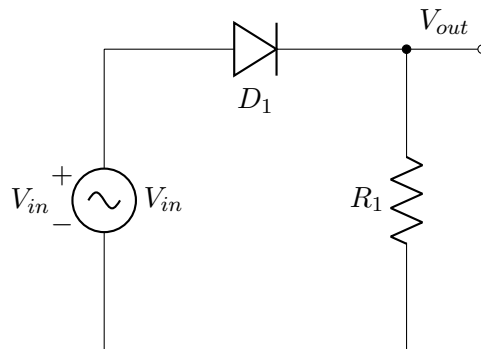

Figure 1: Half-wave rectifier using one diode
In half-wave rectification, either the positive or negative half of the AC wave is passed, while the other half is blocked. Because only one half of the input waveform reaches the output, it is only 50% efficient if used for power transfer. Half-wave rectification can be achieved with a single diode in a single phase supply as shown in figure 1. The output DC voltage of a half wave rectifier, given a sinusoidal input, can be calculated with the following ideal equations:
1. Half-wave rectifier: Perform a transient simulation of the half-wave rectifier of figure 1, using a sine wave of $2V_{pp}$, a small signal diode (1N914 for example) and $R_1 = 100\Omega$. Calculate the following